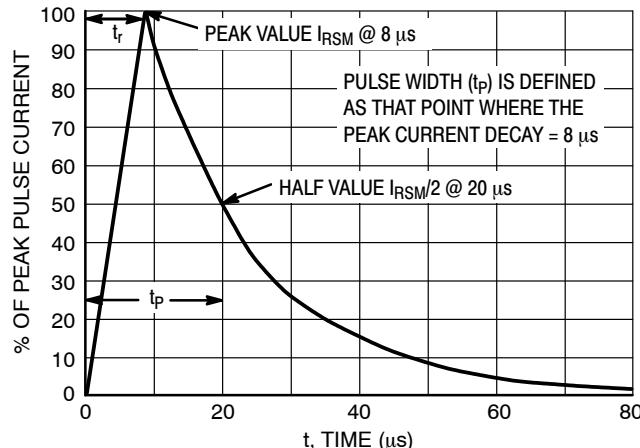

Figure 5. 8 x 20 μs Pulse Waveform
1. Non-repetitive current pulse per Figure 5 (Pin 5 to Pin 2)
4. Non-repetitive current pulse per Figure 5 (Pin 5 to Pin 2)
5. Surge current waveform per Figure 5.